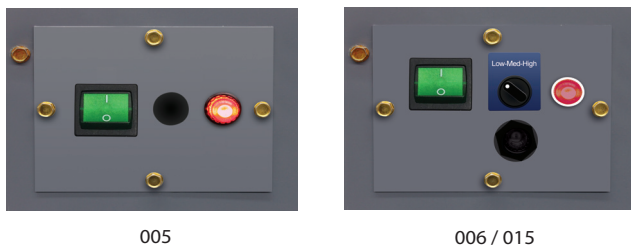

Fig. 6 – Control Panels
- Locate the control panel on the front upper left (Fig. 6).